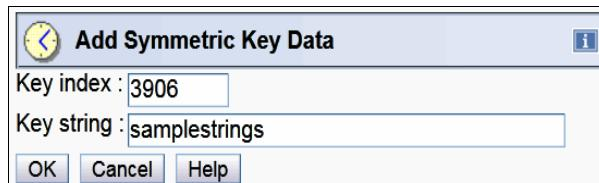

Figure 8-14 Add Symmetric key data
4. The **Add Symmetric Key Data** window opens (Figure 8-14). The following data must be entered: